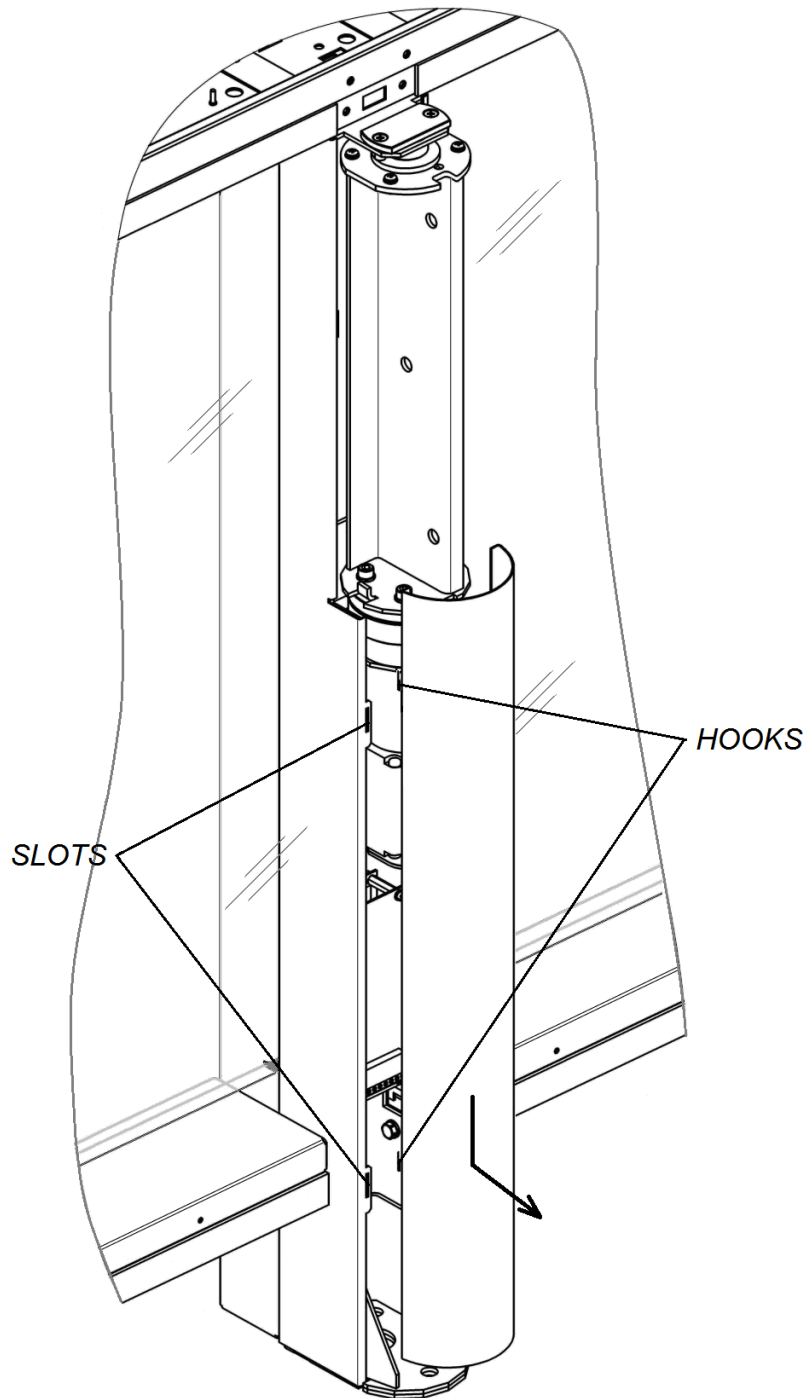

Figure 20. Central post cover plate disassembly
- Dismantle the front panels of both side posts (8) (Fig. 20, Sect. 8.9.2). Prior to this - disconnect the connection cable from the front-end indication block.
10. Route cables through the hole located in the base of the *Master* central post: from PS (16), RC-panel (17), Fire Alarm device (18) and from the optional equipment. Route DC (19) and CAN (20) cables from the *Slave* section (side of the section) or a flexible conduit for cabling.
21. If needed, access card reader can be installed in the special openings inside the top duct of the side posts (see Fig. 20) or, in case of using **MR-07OEM**, the reader is to be stuck to the top cover underneath the indication block. Use the double-sided tape to fix readers and, if needed, non-metal pads for the reader to be placed as close to the top cover as possible in order to increase the read range. Carefully route reader cables through the top duct into the central post where the ACS-controller cable is to be led through the default holes. Cables should not be routed between or near the holes used for fastening the section top cover. This will prevent the cables from damage. Use self-adhesive cable tie mounts for cable fastening. It is prohibited to fix cables to the internal wiring cables and to the control boards of the intrusion detectors. It is also prohibited to route cables near the control boards where the detectors are located.
24. Mount front panels (8) (Sect. 8.9.2). After installation make sure that the top edges of the panels are flush with the section housing. Front-end indication block panel should be installed where indication control module is located. This module is fixed to one of the two steel protection plates in the top duct (see Fig. 20). However, the front-end indication block is to be connected to the indication control module with a connection cable. The connection cable connected to the **ARROW** connector of the indication control module will activate the white arrow on the front-end indication blocks. The cable connected to the **CROSS** connector will activate the red cross (Sect. 5.2.2, 8.9.2, Fig. 20).
Remove the side post front panel (8), moving it up along the post and then pull it, bringing the hooks from slots in the side post (Fig. 20). Be careful not to damage the connection cable! Disconnect the connection cable output from the front-end indication block.